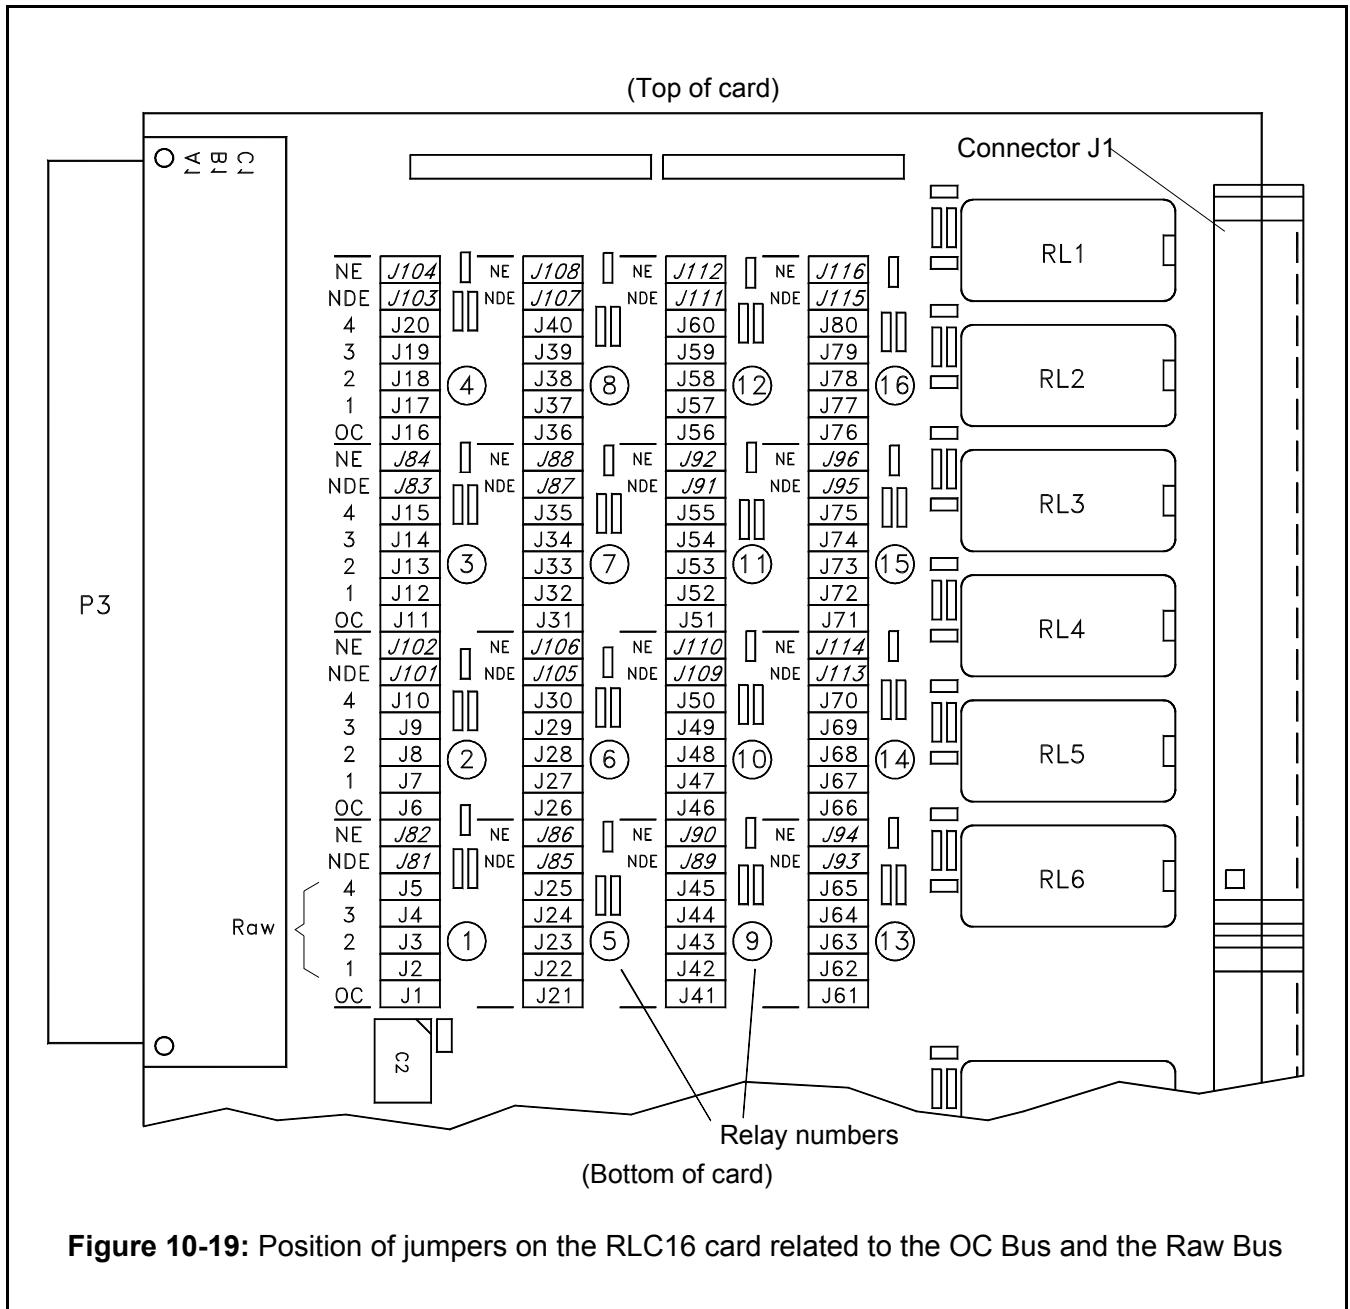

Figure 10-19: Position of jumpers on the RLC16 card related to the OC Bus and the Raw Bus
The control signal is subsequently routed towards a specific relay on the RLC16 card by setting a jumper on the RLC16. Additional jumpers on the RLC16 allow the selection of relay normally energised (NE) or normally de-energised (NDE). The jumper settings are summarised in Table 10-2 and the position of the relevant jumpers on the RLC16 card is shown in Figure 10-19.